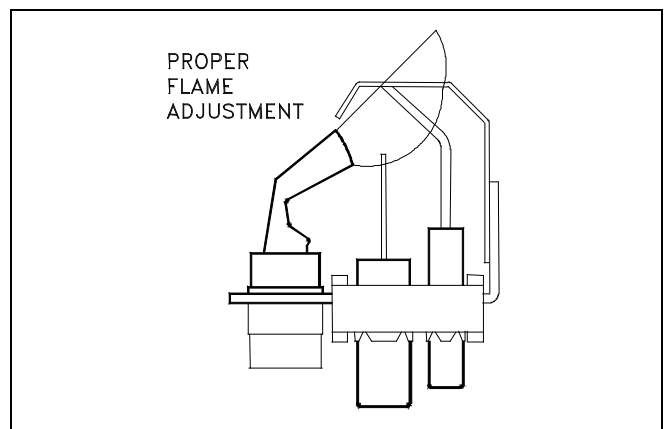

Figure 19. Pilot Flame Adjustment.
3. Pilot flame should cover 1/2 inch of tip of flame sensor as shown in Figure 19.